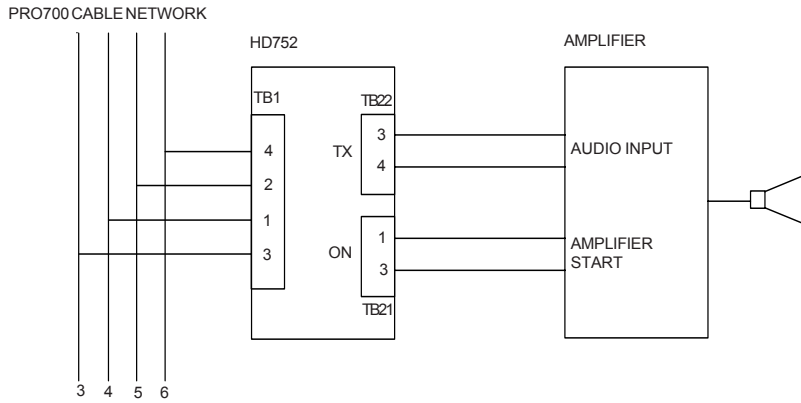

Fig: 1
By switch programming (SW1), HD752 must be given a call number in the range 10-31. The external amplifier input must be connected to the "audio output" terminals TB22 in the HD752 unit. If required, a relay contact (ON relay) can be connected to the amplifier's "start input". When the unit is called, the ON relay will operate and audio is transmitted from the audio output (TX) to the external amplifier. HD752 can be programmed as a member of All-Call and Group-Call 1 and 2. See Fig. 1.